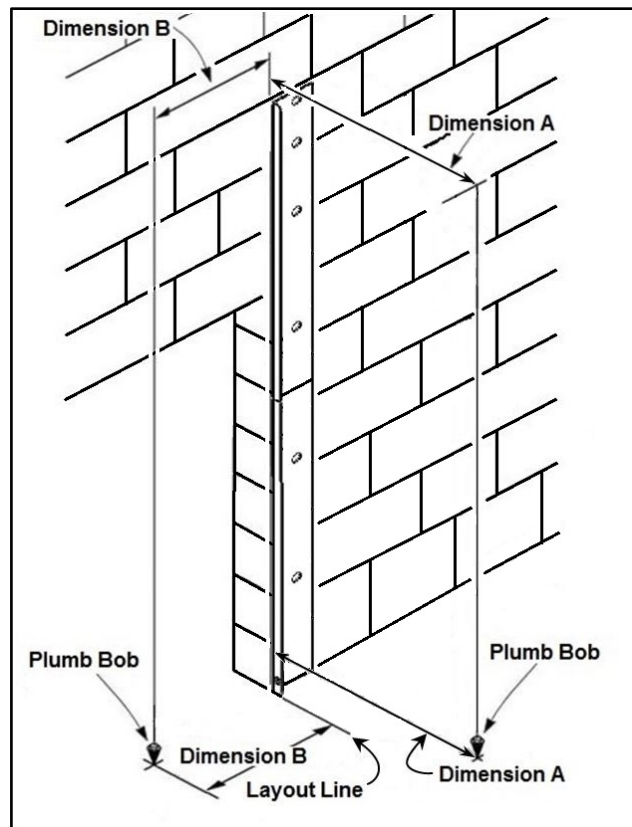

Figure 18
2. Stand the side column assembly on the floor, with the back of the column firmly against the mounting wall. (See Figure 18)
out of plumb. Double-sided tape can be used to hold the shims in place on the wall or side column(s) until the side column(s) is/are secured to the wall. (See Figure 18)
To check for plumb measure a few inches away from the face of the side column near the top (Dimension A) and lower the plumb bob as shown. (See Figure 18)
Also, measure a few inches away from the side of the column near the top (Dimension B) and lower the plumb bob. (See Figure 18)) Mark the floor where the plumb bob touches. Compare the upper measurement to the lower measurement. Lean the column to the left or the right until the two measurements are equal and the column is plumb with the floor (or shim plate).